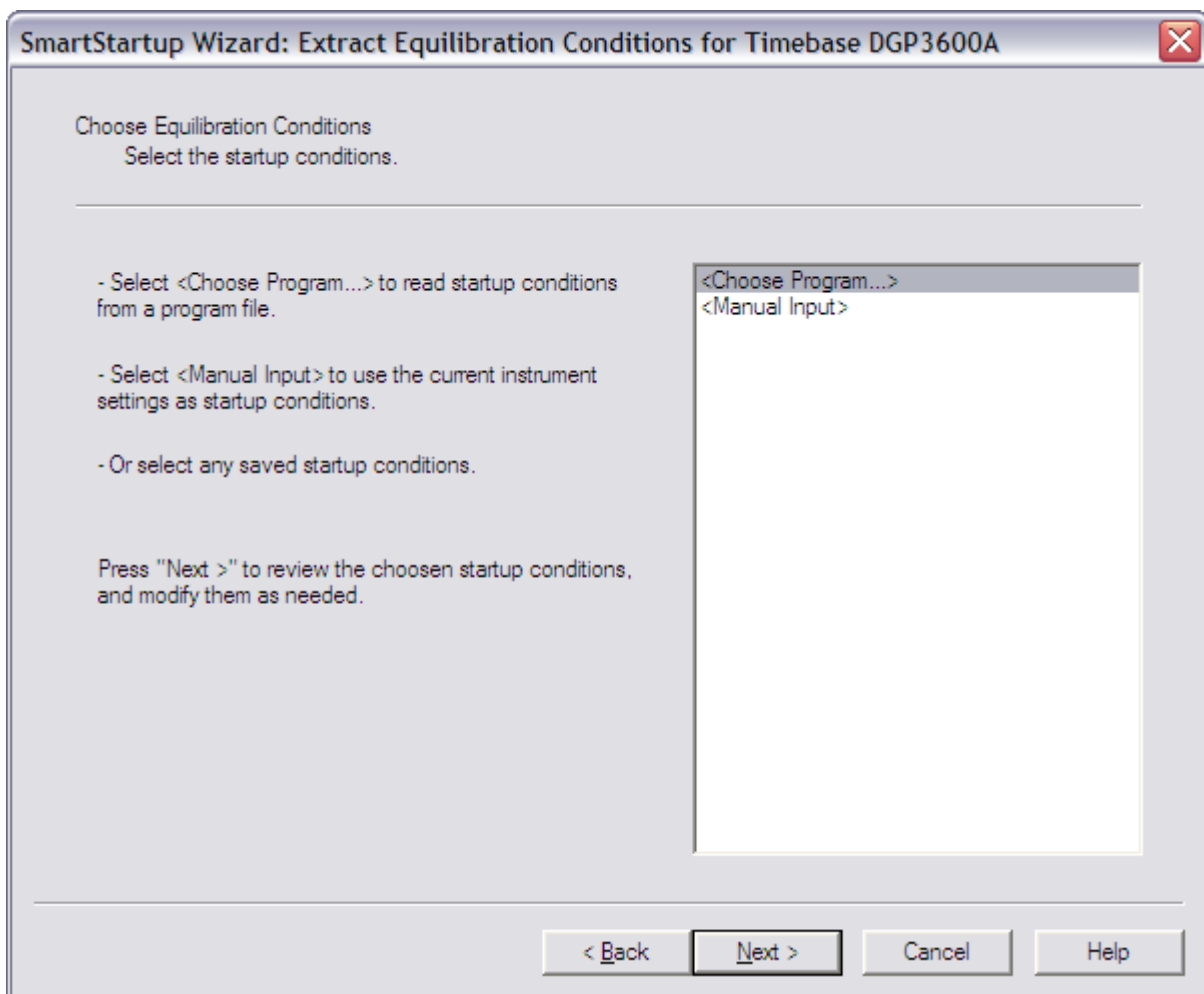

FIGURE 8-5: SmartStartup wizard - specify a program or manual input for equilibration
2. First the timebase is selected. After selecting the timebase, the settings for the equilibration are specified (FIGURE 8-5). A program file can be used for initial equilibration settings or the equilibration settings can be specified manually.